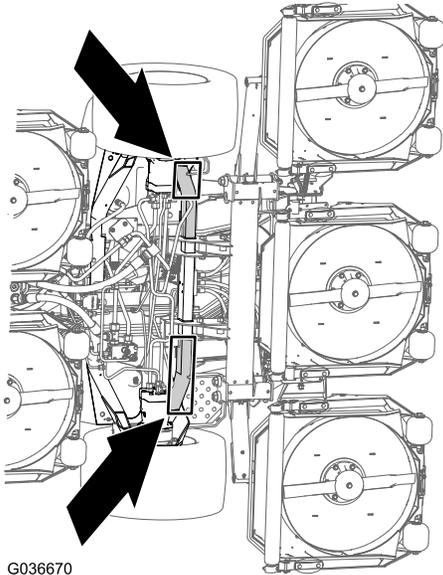

Figure 46
**Front of the machine**—at the frame of the machine, forward of the wheel-drive motors (Figure 46)